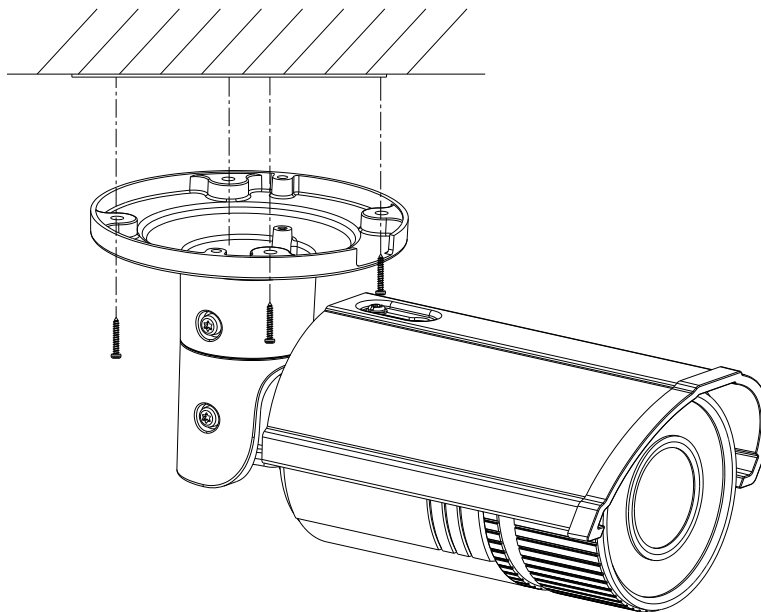

Figure 4-30 Secure the Camera
5. Secure the camera to the wall (or ceiling) with expansion screws. Refer to the Figure 4-30.